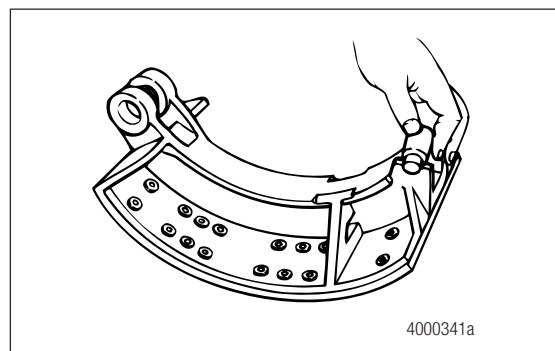

Figure 3.10
4. Use a brass drift to remove the bottom anchor pin. Remove the bottom shoe. If necessary, remove the rollers. Figure 3.10.